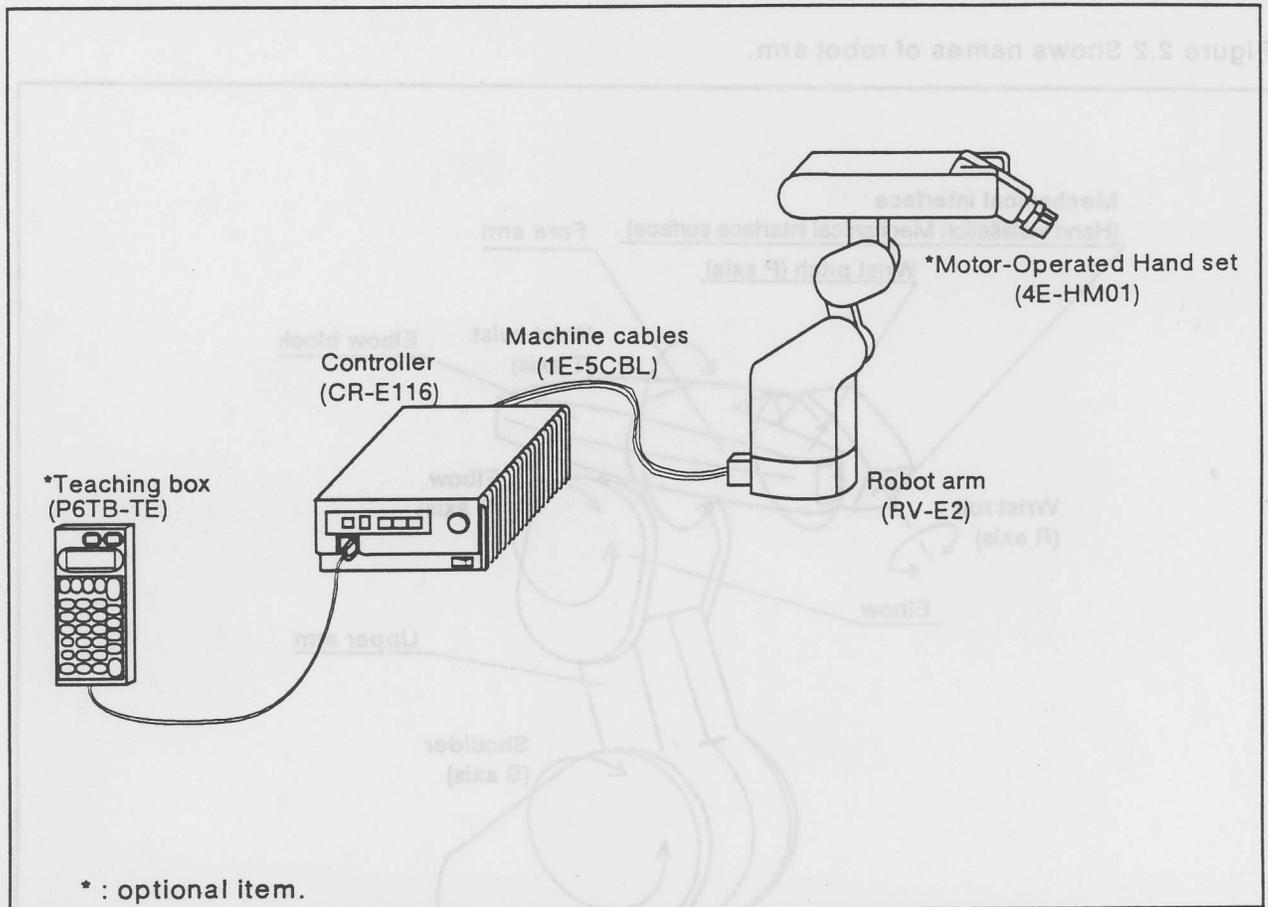

Fig. 2.1 Configuration
Figure 2.1 shows basic connection.
- figure 2.1 shows only basic equipments.